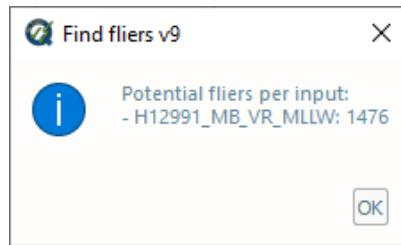

Fig. 2.6: The output message at the end of **Flier Finder v9** execution.
- Click **Flier Finder v9**. After executing, the output window opens automatically (Fig. 2.6), and the results are shown: